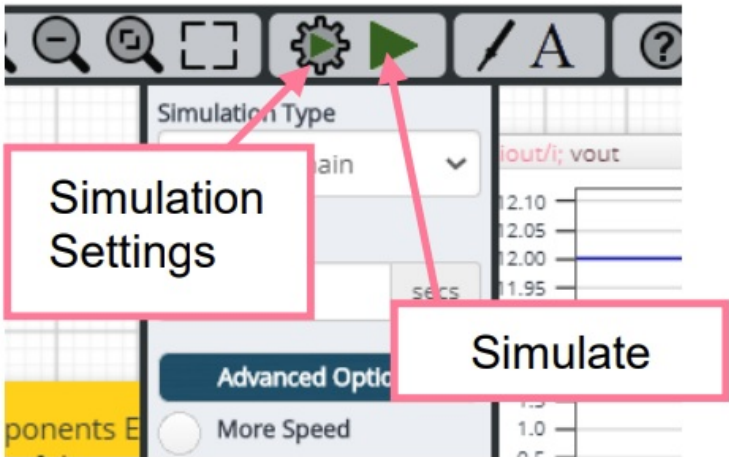

Figure 2. Simulation Settings and execution
- The simulation settings, such as parameter sweep or convergence options, are configurable from the 'Simulation Settings' shown in Figure 2, and Table 1 shows the default setup of the simulation.